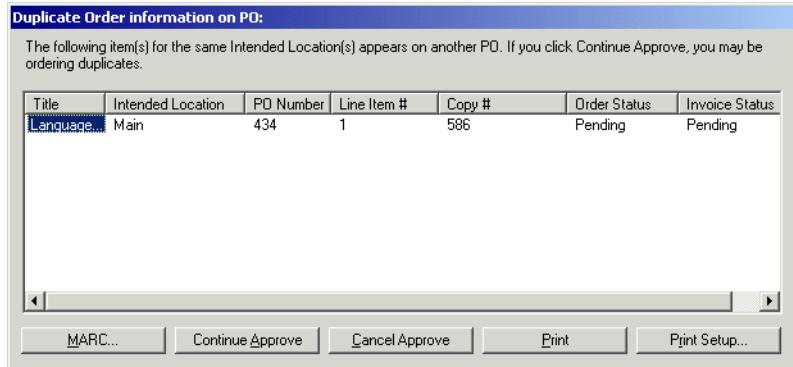

Figure 6-62. Duplicate Order Information on PO dialog box
4. Click the **Check for Duplicates** check box if you want the system to check for duplicate titles for the same location when a purchase order is approved. The system checks duplicate line items based on the Order Location and the Bibliographic ID. If any orders match these two criteria, the **Duplicate Order Information on PO** dialog box opens (see Figure 6-62).
The **Duplicate Order Information on PO** dialog box (Figure 6-62) opens when you approve a purchase order that contains titles that are on more than one purchase order for the same location, or duplicate purchase order numbers. (Providing that you checked the **Check for Duplicates** check box of the Approve Options section when approving a PO.)